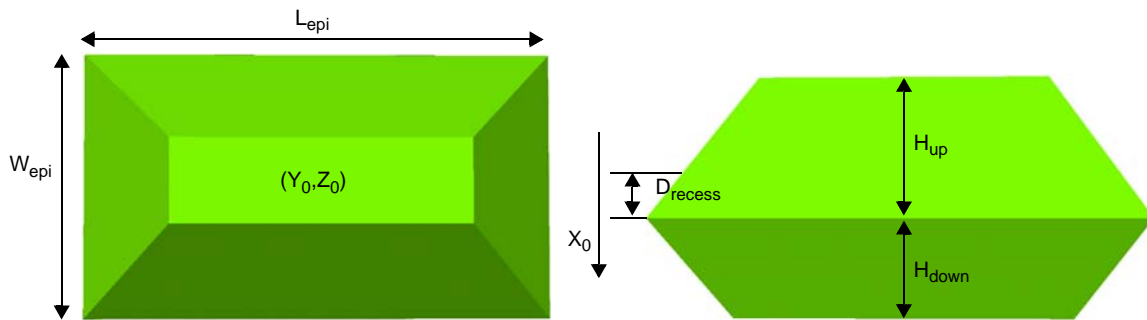

Figure 131 Epitaxial diamond-shaped polyhedron
- For other parameters, see Figure 131.